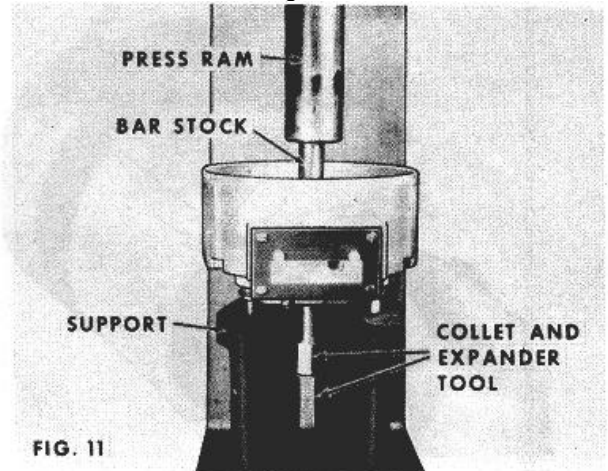

Fig. 11
- Slip ring end bearing replacement should seldom be required. If it should become necessary, however, press the bearing from the inside of the housing outward using Snap-On Tool Co., No. CG-40-11 with CG-40-4. (See Figure 11.)